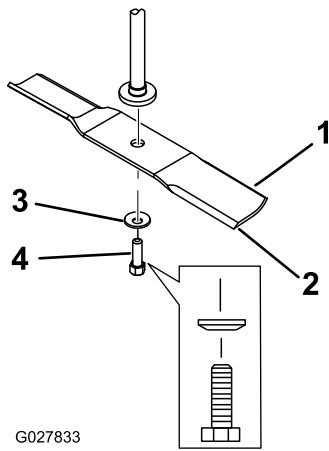

Figure 50
2. Remove the blade bolt, the curved washer, and the blade from the spindle shaft (Figure 50).
2. Install the the curved washer (cupped side toward the blade) and the blade bolt (Figure 50).
1. Install the blade onto the spindle shaft (Figure 50).